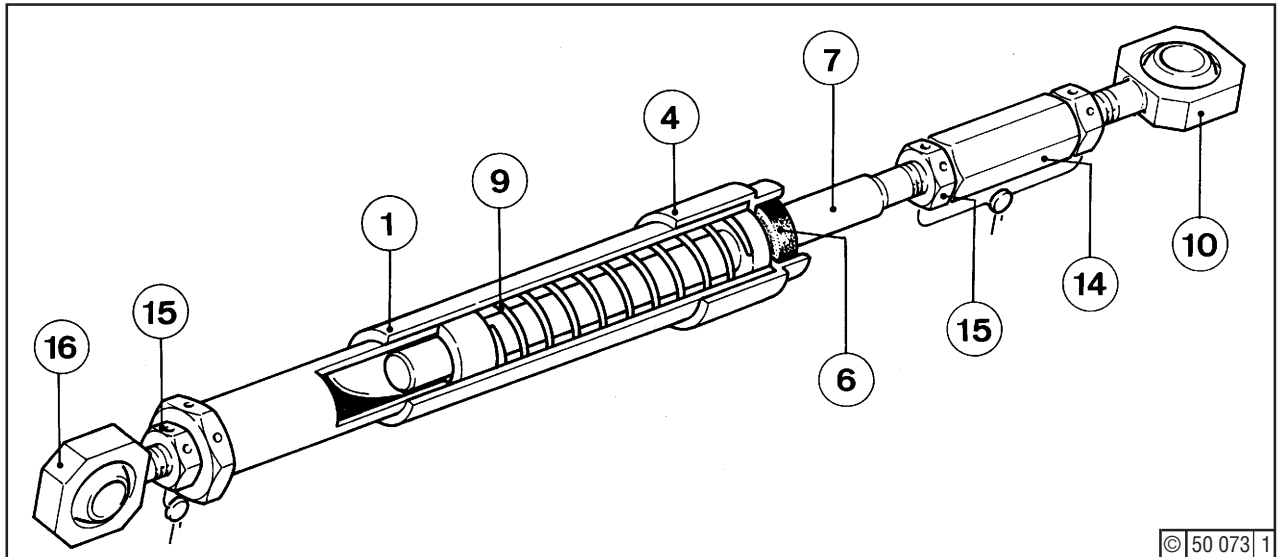

Fig. 7
Loosen hex. nuts (15) - Fig. 7 - and remove link heads (16) and (10), the latter together with turnbuckle (14). Carefully screw off union nut (4), which is under pressure of compression spring (9) inside the telescope. Take out connecting piece (7) and compression spring (9).